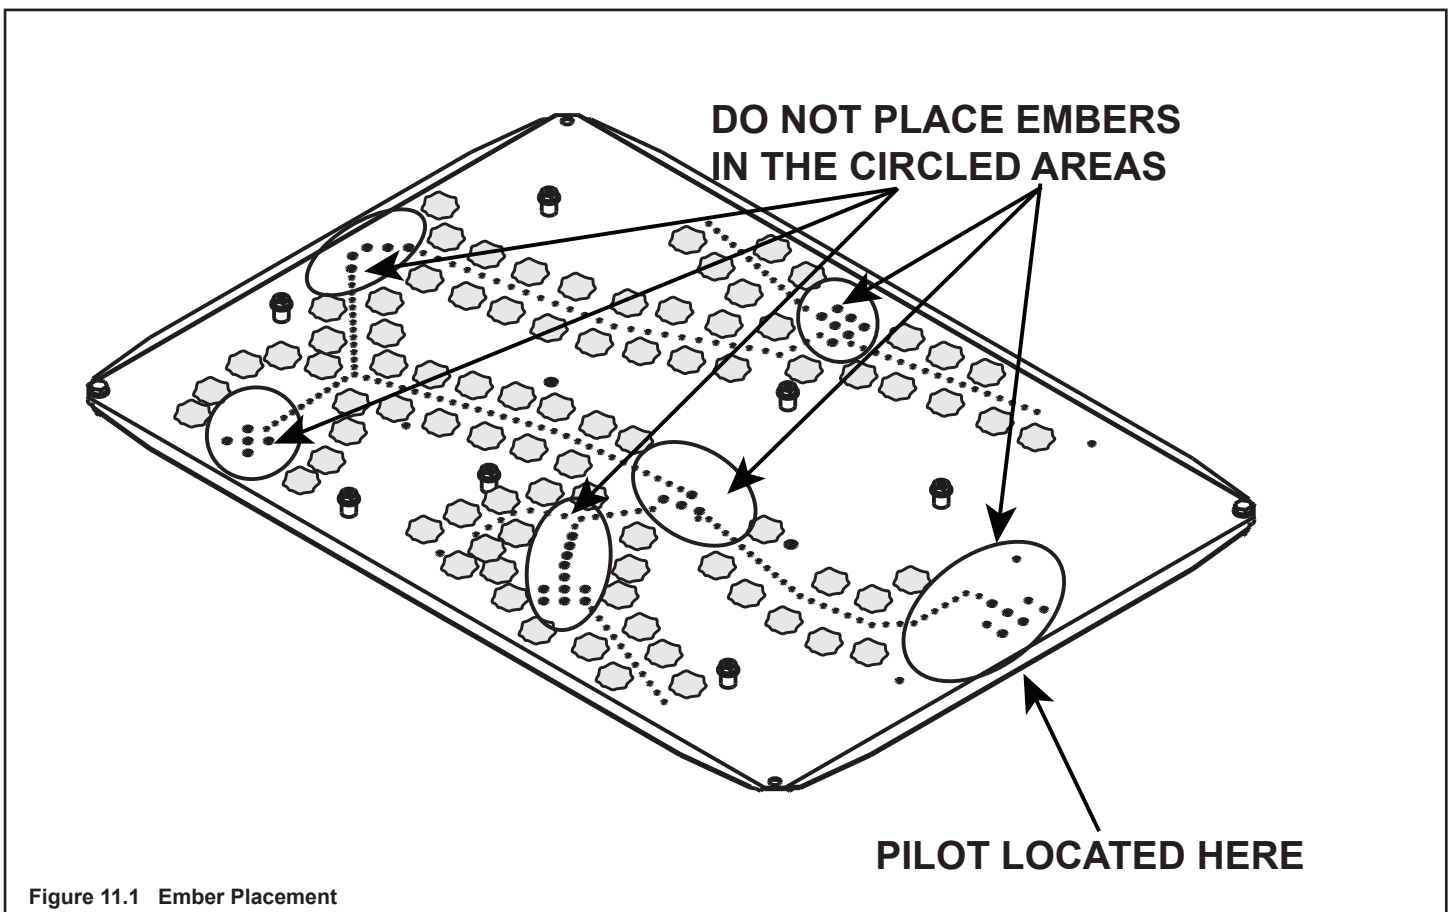

Figure 11.1 Ember Placement
Place glowing embers as shown in Figure 11.1.
- Embers may only be placed in areas as shown in Figure 11.1. Care should be taken not to cover the lighting trail of ports near pilot assembly as shown in Figure 11.1.
- When placing Glowing Embers® onto the burner care should be taken so that the ports are not covered. Place the dime-size ember pieces. See Figure 11.1. Failure to follow this procedure will likely cause lighting and sooting problems.